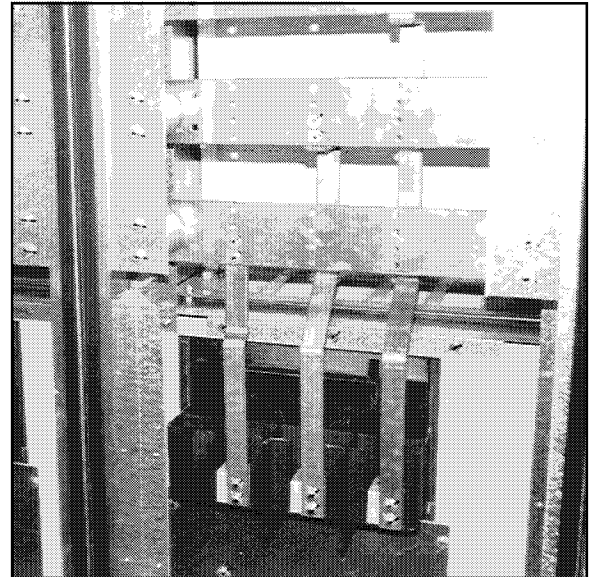

Fig. 51 Check Electrical Joints
- ☐ Examine all visible terminals and joints for signs of overheating (Fig. 51). An overheated connection will appear discolored. Be suspicious of any conducting joint which has a darker color than other similar joints.